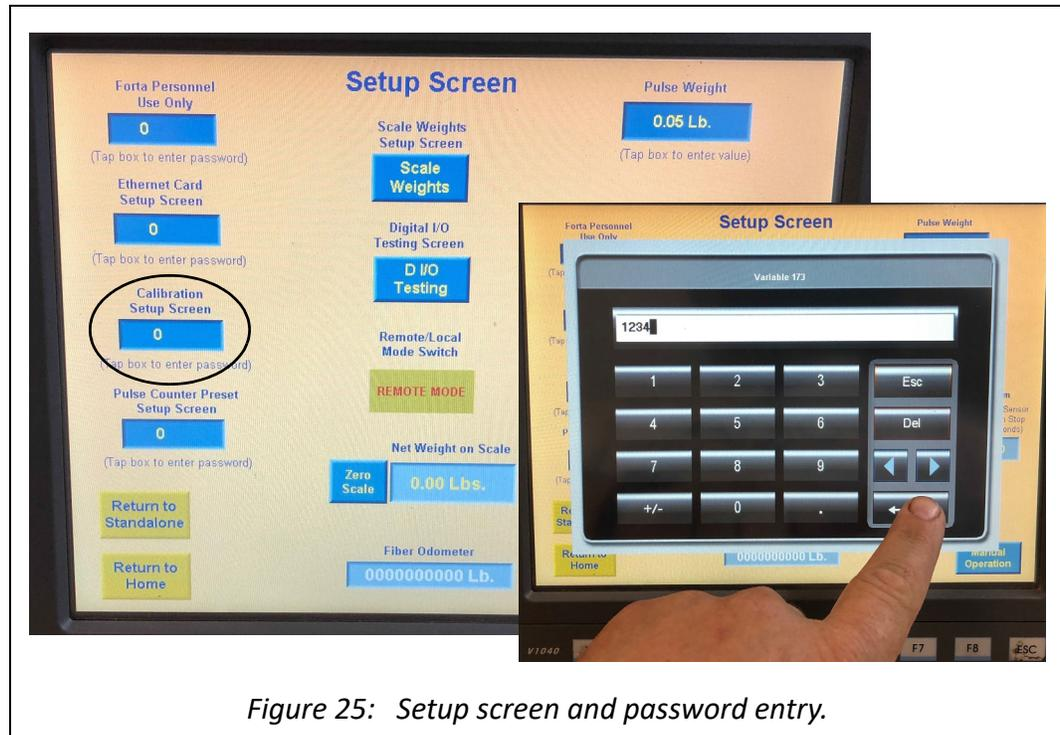
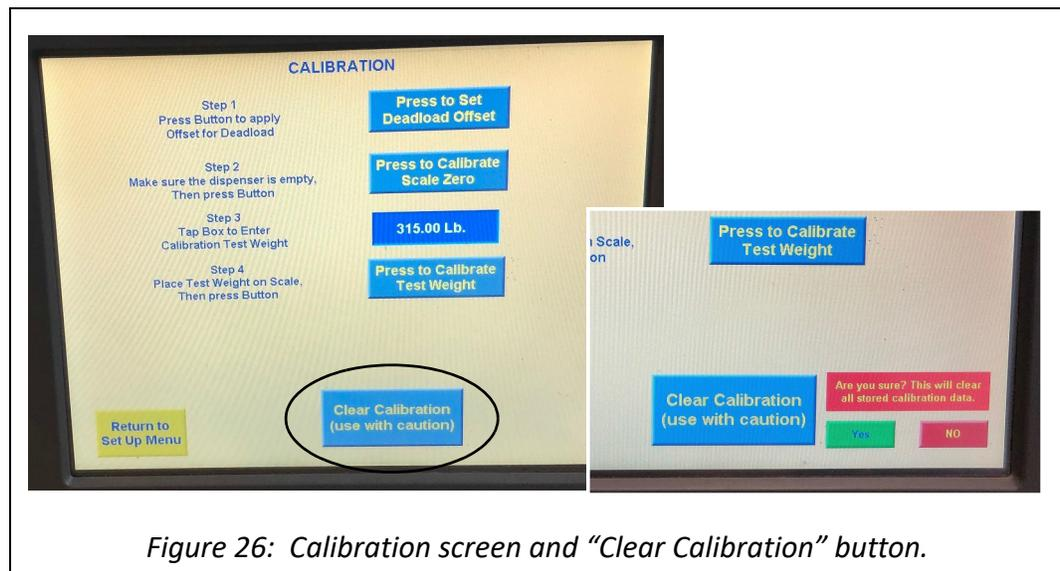

Figure 25: Setup screen and password entry.
Figure 26: Calibration screen and "Clear Calibration" button.
- b. On the Setup Screen, touch the **Calibration Setup Screen** box on the touch screen (see Figure 25); a password entry screen will open. Enter the password “1234” on the touch screen and then touch the **Enter** symbol. The Calibration Screen should open (see Figure 26).
6. Before calibration can proceed, the existing calibration data must be cleared; touch the **Clear Calibration** button. A warning message and additional buttons will appear next to the button (see inset of Figure 26). Touch **Yes** to confirm that you want to clear the calibration data.